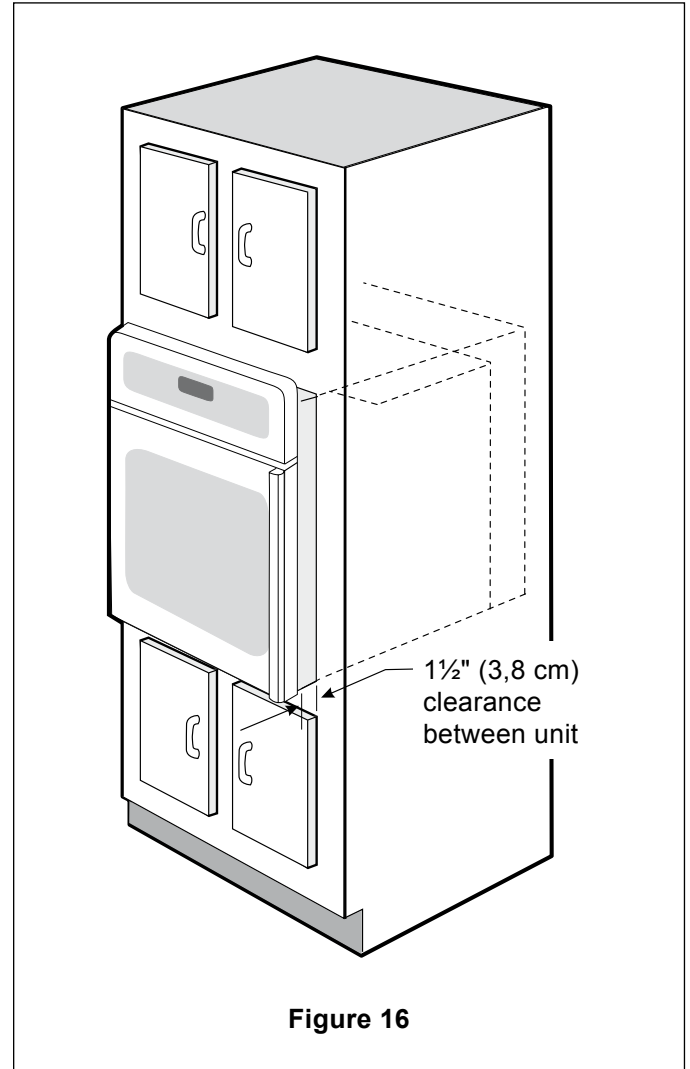

Figure 16
4. Insert the oven into the cabinet opening. Slide oven inward leaving 1½" (3,8 cm) clearance between the oven and front of cabinet (see Figure 16). Pull the armored cable through the hole for it in the cabinet and toward the junction box while moving the appliance inward.